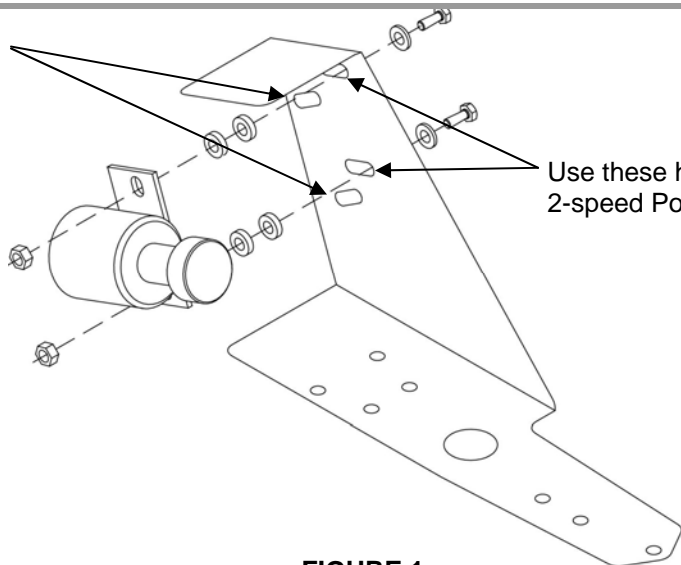

FIGURE 1
6. Attach the solenoid to the mounting bracket in the appropriate location by utilizing the spacers, bolts and nuts as described in Figure 1 on the next page. Tighten fasteners.